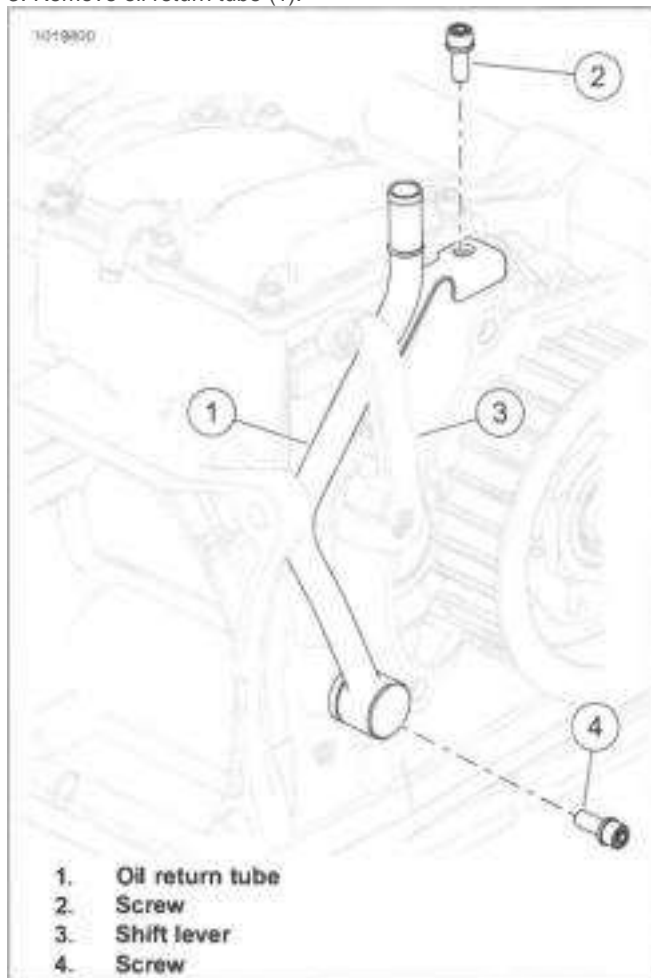

Figure 5-81. Oil Return Tube/Cover
2. See Figure 5-81.. Remove screws (2, 4).
3. Remove oil return tube (1).
1. See Figure 5-81. Install new O-ring on lower oil tube adapter.
2. Install oil return tube (1).
- a. Locate oil return tube between shift lever (3) and transmission housing.